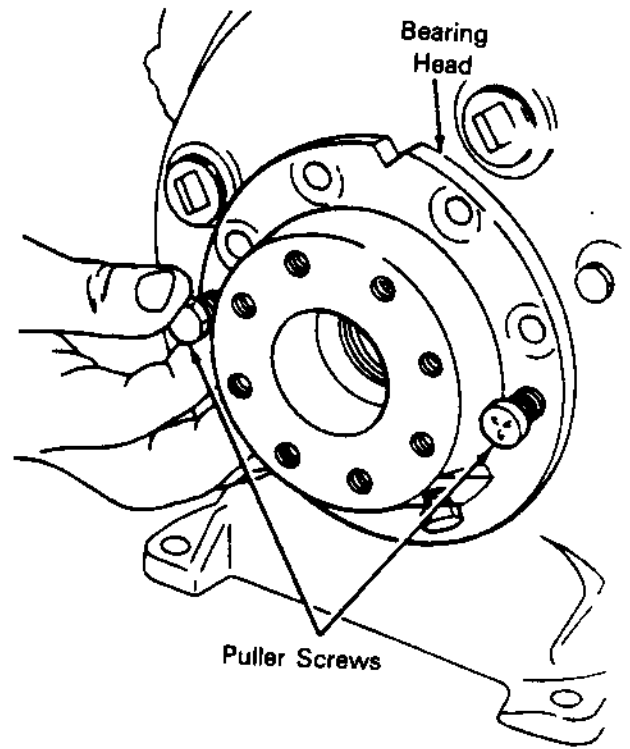
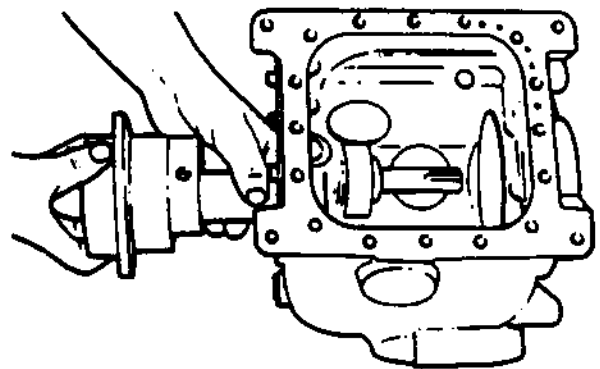

Figure 34 – Removing Pump End Bearing Head
Figure 35 – Removing or Replacing Crankshaft and Pump End Bearing Head
3. Remove the cap screws (6) which attach the pump end bearing head (18) to the compressor.
4. Thread two puller screws into tapped holes in the bearing head flange (Figure 34). Support the seal end of the crankshaft and remove the pump end bearing head and crankshaft from the housing (Figure 35). Grip the crankshaft through the hand-hole cover opening until it is out of the housing.